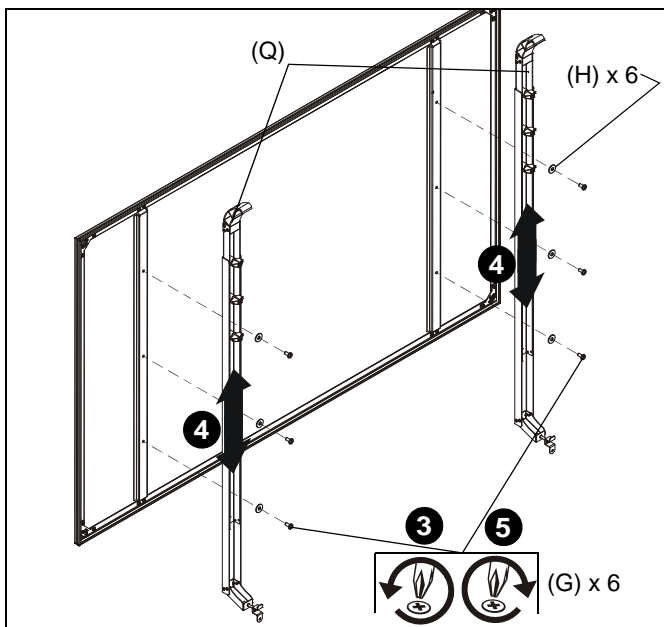

Figure 9
3. Loosen six Phillips head screws on back of screen. (See Figure 9)
4. Adjust screen up or down, as required. (See Figure 9)
5. Tighten six Phillips head screws (G) to fasten screen to upright assemblies (Q). (See Figure 9)